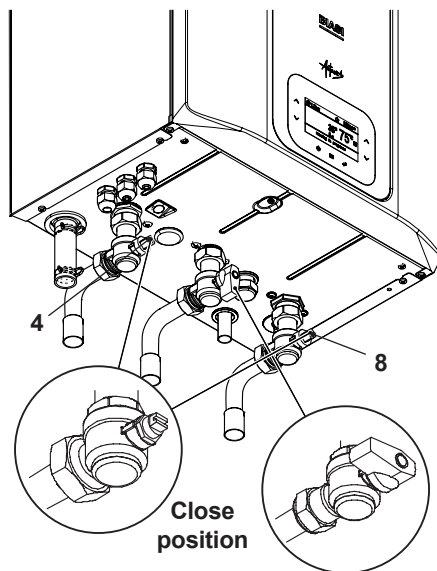

Fig. 10.10
- Close the C.H. isolating valves (4 and 8 in Fig. 10.10).